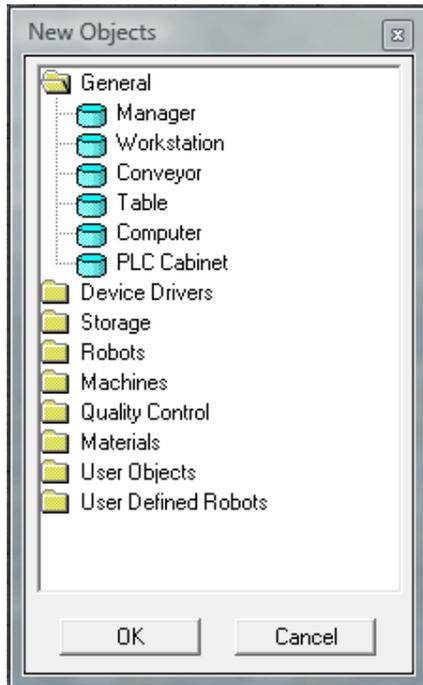

Figure 8-10: New Objects Dialog Box
1. Select Edit | New Object. The **New Objects** dialog box is displayed as shown in Figure 8-10: New Objects Dialog Box.
1. Select **Edit | New Object**. The **New Objects** dialog box is displayed as shown in Figure 8-10: New Objects Dialog Box
1. Select **Edit | New Object** The New Objects dialog box is displayed, as shown in Figure 8-10: New Objects Dialog Box.